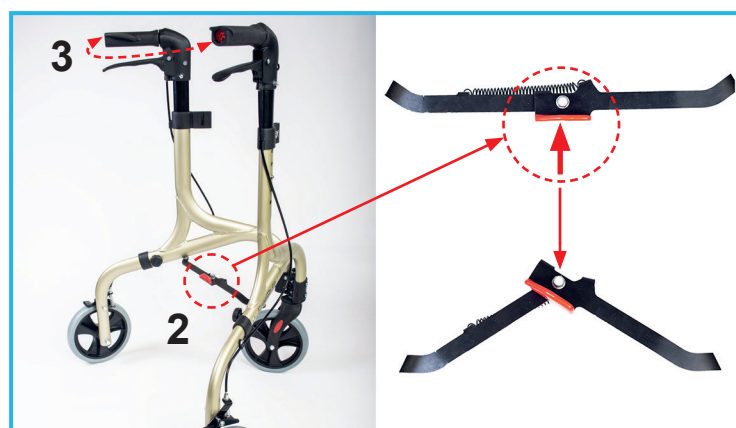

Figure 10: Folding the Rollator
2. Refer to Figure 10. Gently, push the cross-bar forwards to release the spring lock.